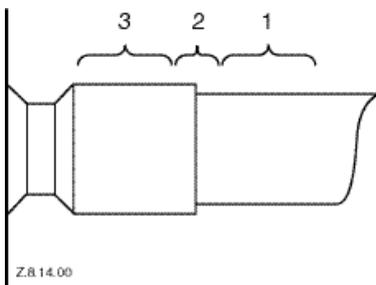

Figure 11: Suction tube brazing
Copeland Scroll compressors have copper plated steel suction and discharge tubes. These tubes are far more robust and less prone to leaks than copper tubes used on other compressors. Due to the different thermal properties of steel and copper, brazing procedures may have to be changed from those commonly used. For brazing of the tubes see Figure 11 and the following procedures. Since the discharge stub contains a check valve, care must be taken not to overheat it as well as to prevent brazing material from flowing into it.
- Recommended brazing-materials: Silfos with minimum 5% silver or silver braze used on other compressors. Due to the different thermal properties of steel and copper, brazing procedures may have to be changed from those commonly used. For brazing of the tubes see Figure 11 and the following procedures. Since the discharge stub contains a check valve, care must be taken not to overheat it as well as to prevent brazing material to flow into it.